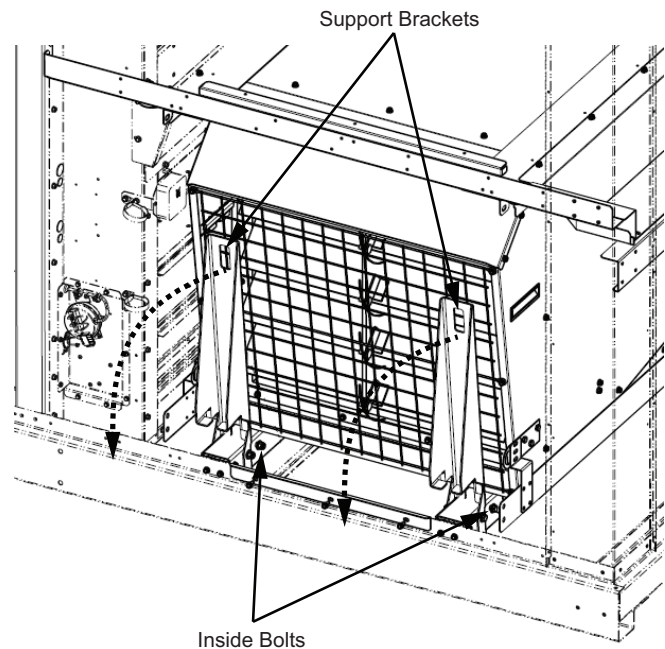

Fig. 41 — Power Exhaust Support Bracket and Inside Bolt Locations
7. Remove the inside bolts for the 2 support brackets and save the bolts. See Fig. 41.
8. Rotate the 2 support brackets down to the operating position and re-install the bolts. See Fig. 41.